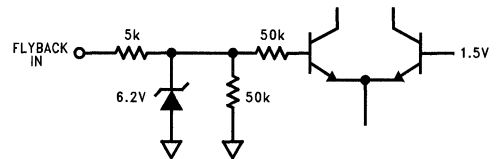

FIGURE 13
**FLYBACK IN (Pin 18):** This is a positive-going pulse from the horizontal deflection circuit that is compared to the VCO phase in phase detector 2, whose output is used to control the phase of Horizontal Drive Out. This compensates for time delay changes in the horizontal deflection circuitry with temperature, etc. to keep the display position constant. See *Figure 13* for the input schematic.